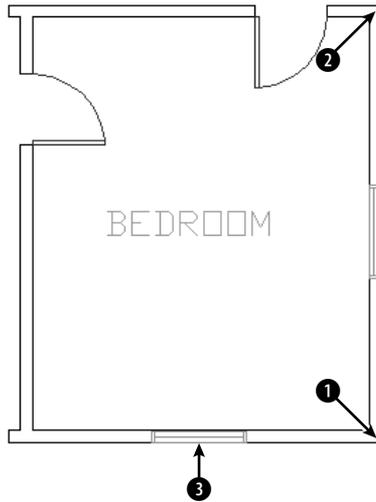

Figure 14-3: A bedroom plan.
2. Save the file as `ab14-01.dwg` in your AutoCAD Bible folder. This is a plan of a bedroom, as shown in Figure 14-3. ORTHO and OSNAP should be on. Set running object snaps for endpoint, midpoint, and intersection. The current layer should be set to Dim.
4.  Choose Linear Dimension from the Dimension toolbar. At the Specify first extension line origin or <select object>: prompt, pick ① in Figure 14-3. At the Specify second extension line origin: prompt, pick ②. At the Specify dimension line location or [Mtext/Text/Angle/Horizontal/Vertical/Rotated]: prompt, move the cursor to the right until you have sufficient space for the dimension text and click.
5. Repeat the DIMLINEAR command. At the Specify first extension line origin or <select object>: prompt, press Enter. At the Select object to dimension: prompt, pick ③ (the window) in Figure 14-3. At the Specify dimension line location or [Mtext/Text/Angle/Horizontal/Vertical/Rotated]: prompt, move the cursor down until you have sufficient space for the dimension text and click.